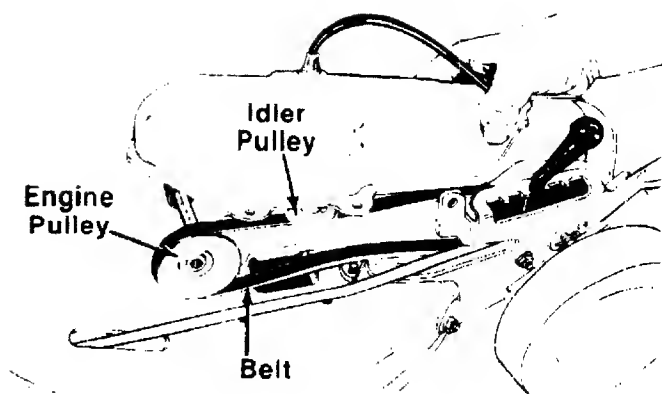

FIGURE 23.
4. Remove the belt from the pulley and the engine pulley. See figure 23.